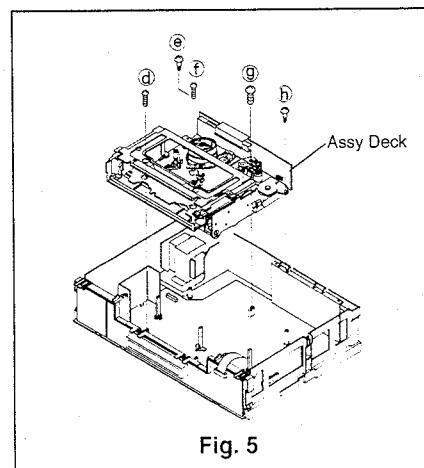

Fig. 5
- ④ Remove the five screws (d ~ h) holding the Assy Deck, shown in Fig. 5, and disconnect the connectors [ML], [MM] and [ME].
- ⑤ Slowly raise slowly the Assy Deck upward to remove it.